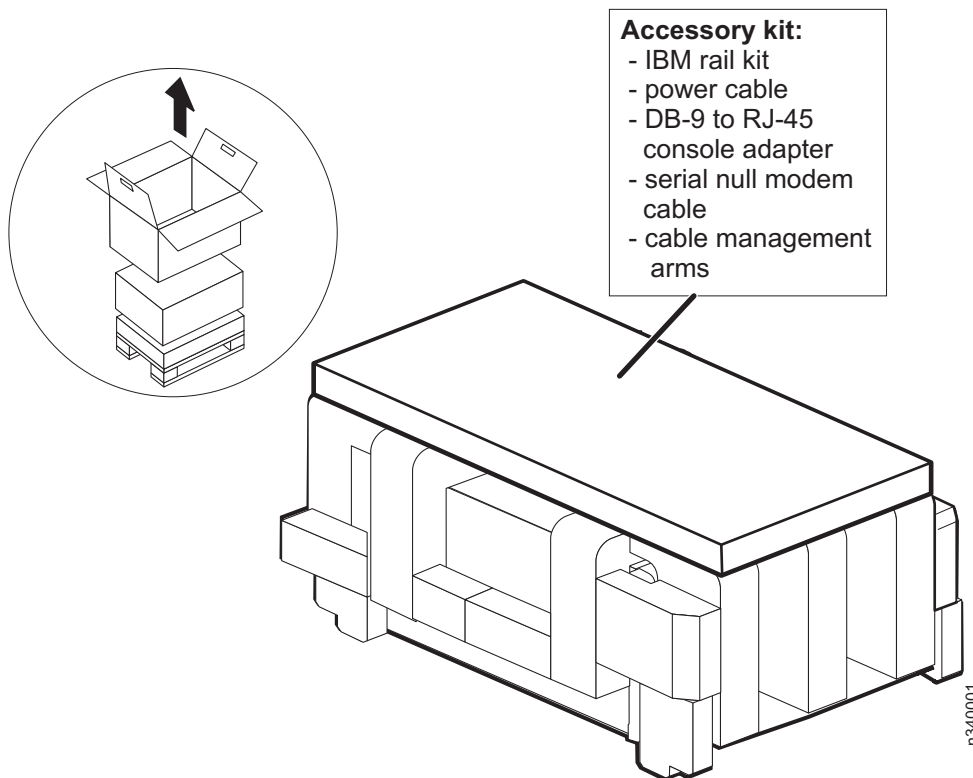

Figure 1. N3400 packaging
1. Lift the box from the crate, as shown in Figure 1. The contents will remain in place.